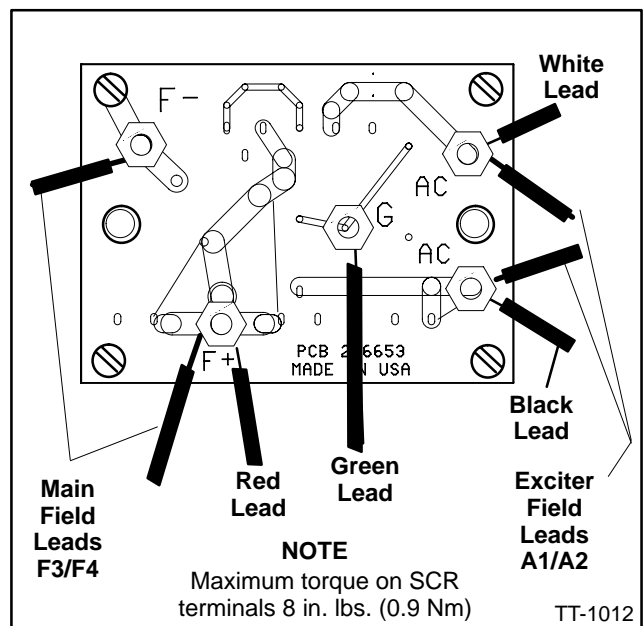

Figure 9. SCR Assembly Wiring
15. Make electrical connections to SCR assembly. When there is a choice between which lead to connect, choose the lead which does not stress the lead or terminal. See Figure 9 for wiring schematic.
Place one elastic stop nut (X-101-24) on each stud. Torque all nuts to 8 in. lbs. (0.9 Nm) maximum. Lead terminals must not contact any circuit board solder connections or any other studs or terminals when SCR assembly stud nuts are tightened. See Figure 9 for recommended lead positions. Use cable ties (X-468-3) as necessary to secure leads.